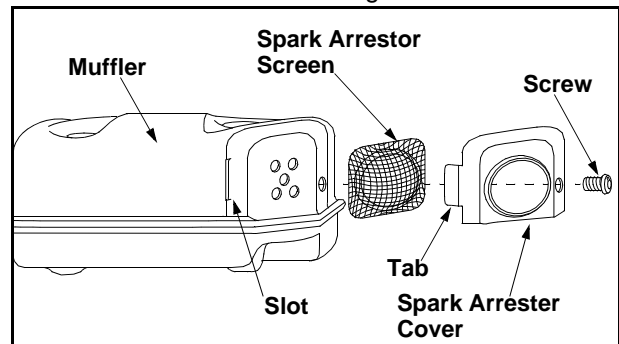

Figure 12
- Remove the screw attaching the spark arrestor cover to the muffler. See Figure 12.